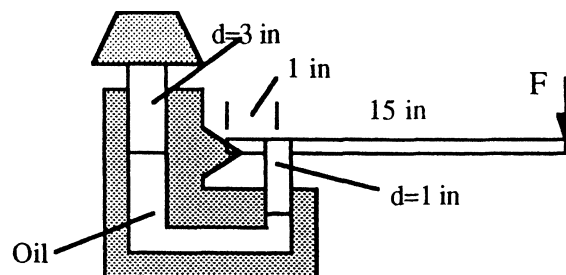

Fig. P2.20
**2.20** The hydraulic jack in Fig. P2.20 is filled with oil at 56 lbf/ft3. Neglecting piston weights, what force F on the handle is required to support the 2000-lbf weight shown?